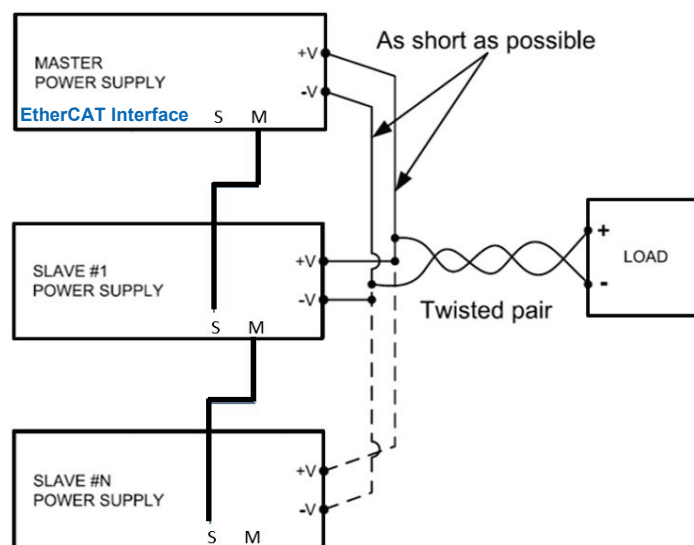

Figure 6–3: Parallel Connection
1. MASTER POWER SUPPLY (Figure 6–3) covers all **GENESYS™** power supply models.